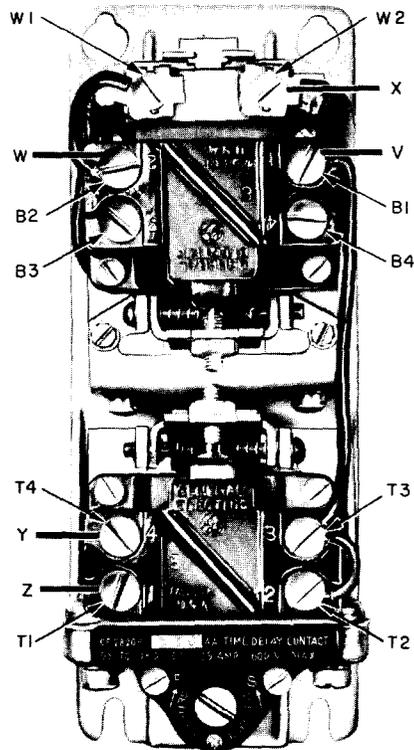

Fig. 22 - Terminals Viewed From Front of CR2820-B111AA Time-Delay Relay
(1) Connections to the terminals of the CR2820-B111AA relay should be made by stripping the wires and securing them under the screw heads.
(2) Connect the tagged leads to the new relay as shown in Fig. 22. For example, connect the "Z" lead to the T1 terminal. Strap between the T2, T3, and B1 terminals, and between B2 and W1.